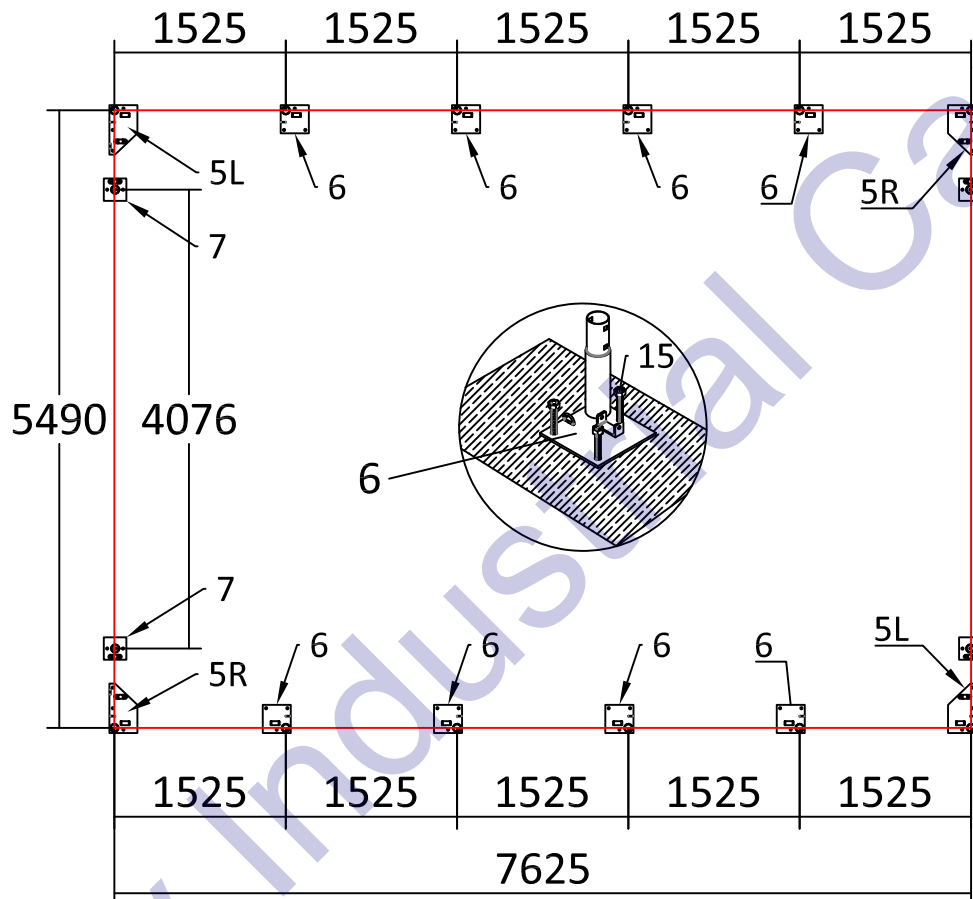

Figure 2
Please refer to the diagram (Figure 2) to place the base plates. (Unit: mm)
2. Please refer to the diagram (Figure 2) to place the base plates: